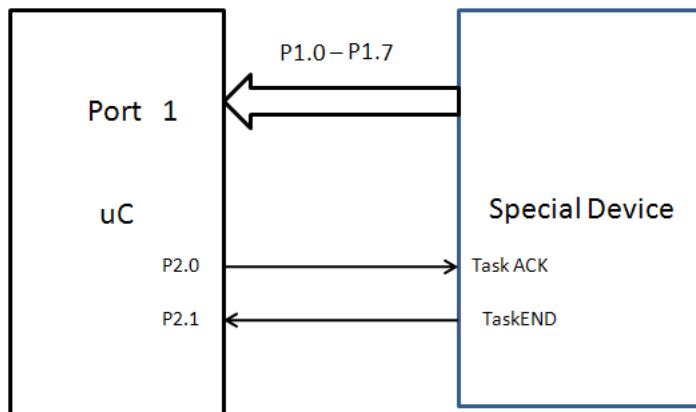

Figure P. 4: Connection to ports.
**Problem 4.** A special device connected to the microcontroller as shown in Fig. P. 4 works as follows: